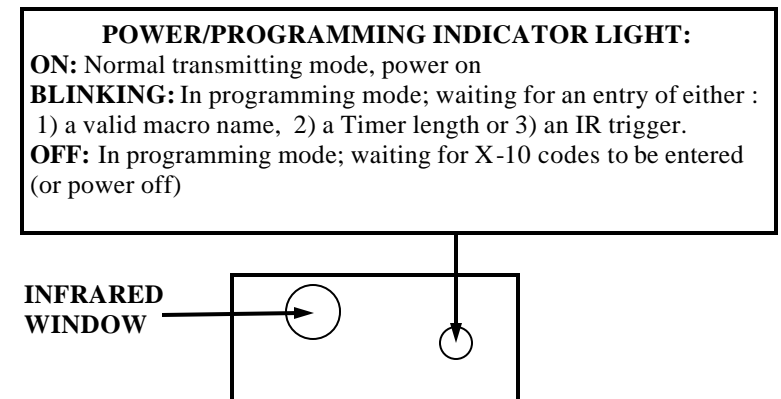

FIGURE 2: VIEW OF FRONT FACE OF MACRO MODULE IR
- 4 On the front face (see Figure 2) the red power/programming light should light after 1 second upon connection to power. Next to the red light is the window for the IR (infrared) receiver. Make sure this window is in line of sight of the IR remote controller that is being used.